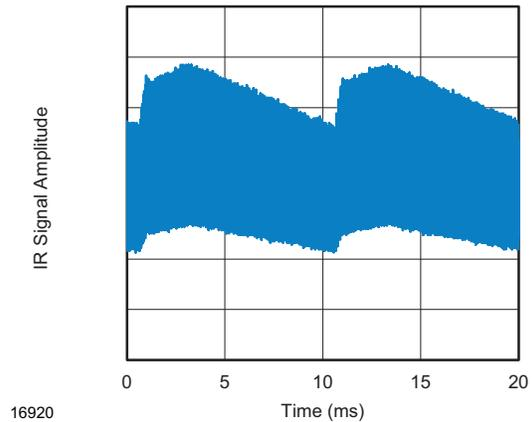
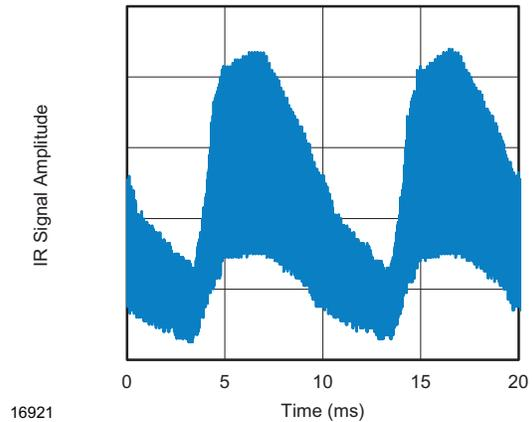

Fig. 15 - IR Disturbance from Fluorescent Lamp With Low Modulation
Fig. 16 - IR Disturbance from Fluorescent Lamp With High Modulation
- Strongly or weakly modulated noise from fluorescent lamps with electronic ballasts (see Fig. 15 or Fig. 16)